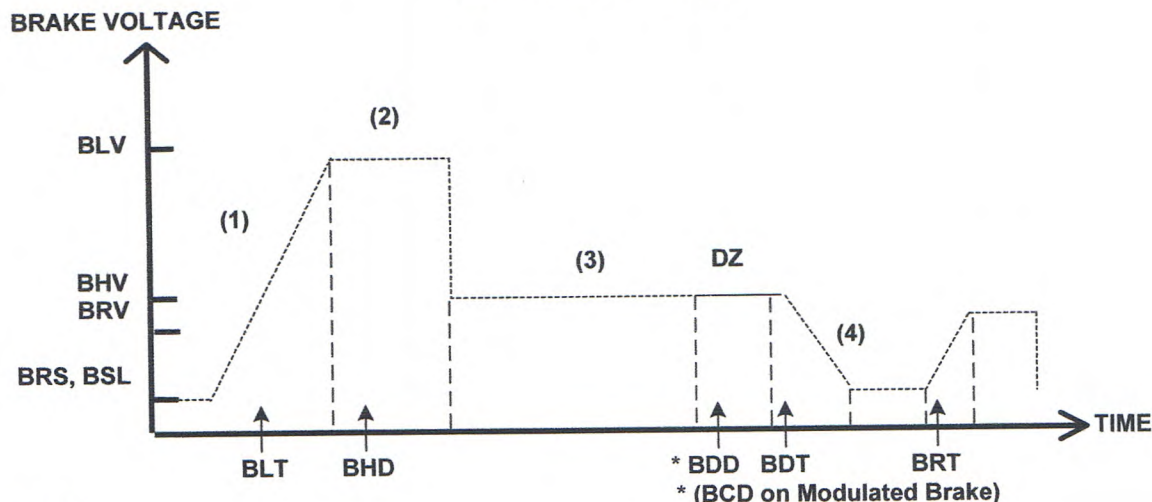

Figure 7-3
5. Manually pick the brake slightly to allow the elevator to sag below the floor. Adjust the parameters BRT, BRV and RVE to allow the elevator to re-level into the floor without dropping further. See Figure 7-3 for full brake parameter details.
Note: *See Figure 7-3 on following page for acronyms.*